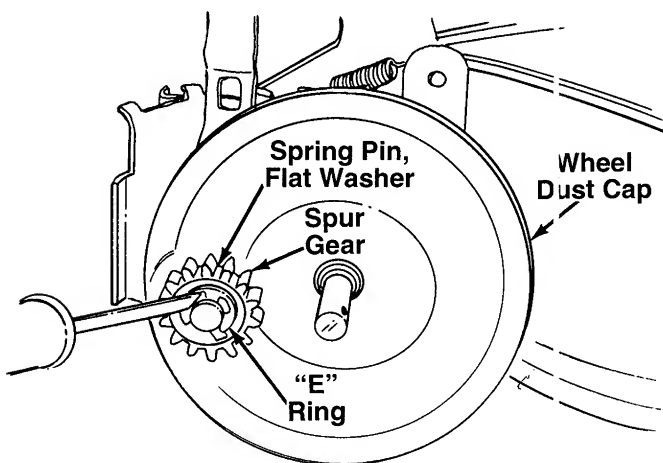

FIGURE 21.
8. With a screwdriver pry "E" ring off of front axle. Slide off spur gear, spring pin, flat washer and wheel dust cap. See figure 21.